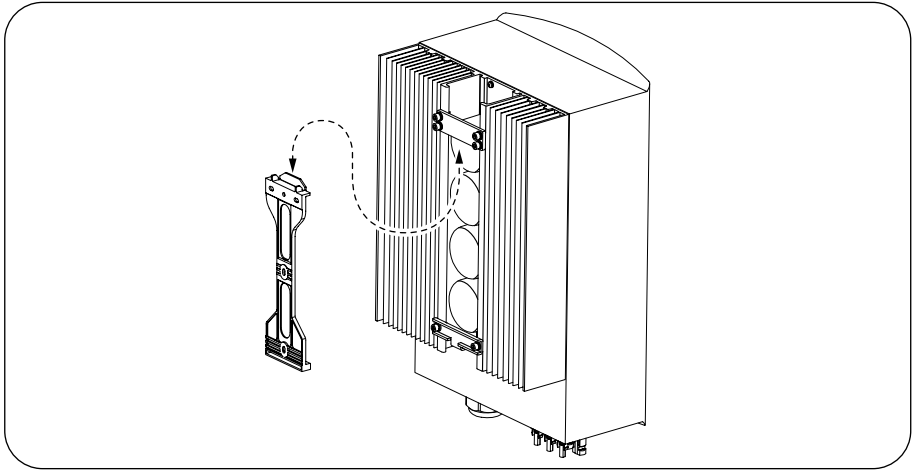

Figure 12 - Wall Mounting Bracket
- Lift up the inverter (be careful to avoid body strain) and align the back bracket on the inverter with the convex section of the mounting bracket. Hang the inverter on the mounting bracket and make sure the inverter is secure (see Figure 12).